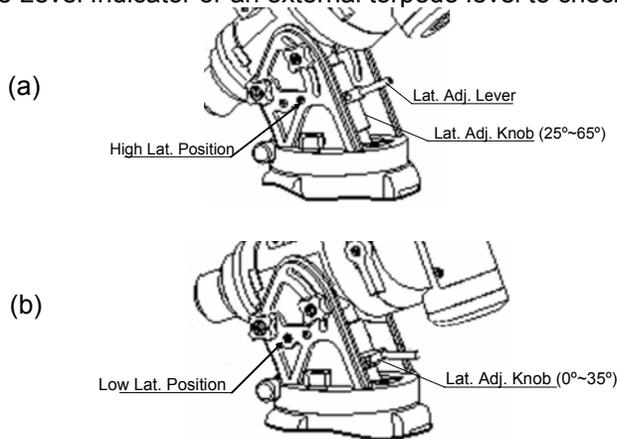

Figure 2
2. **Attach the iEQ30 Mount:** If the latitude is between 25° to 65°, set the Position Safety Pin at High Latitude Position, as shown in Figure 2 (a). For latitude between 0° to 35°, set the Position Safety Pin at Low Latitude Position, as shown in Figure 2 (b). Install the matching Latitude Adjustment Knob as well. The factory set default position is High Latitude Position (25° ~ 65°).
3. **Set the Location Latitude:** Unlock R.A. Clutch and adjust the mount upright. Tighten the R.A. Clutch. Unscrew four Latitude Locking Screws. Turn the Latitude Adjustment Knob to set your current latitude (Figure 2), which is displayed in Latitude Mark Window on the side of the mount. Using the Lever for a fine adjustment if needed.